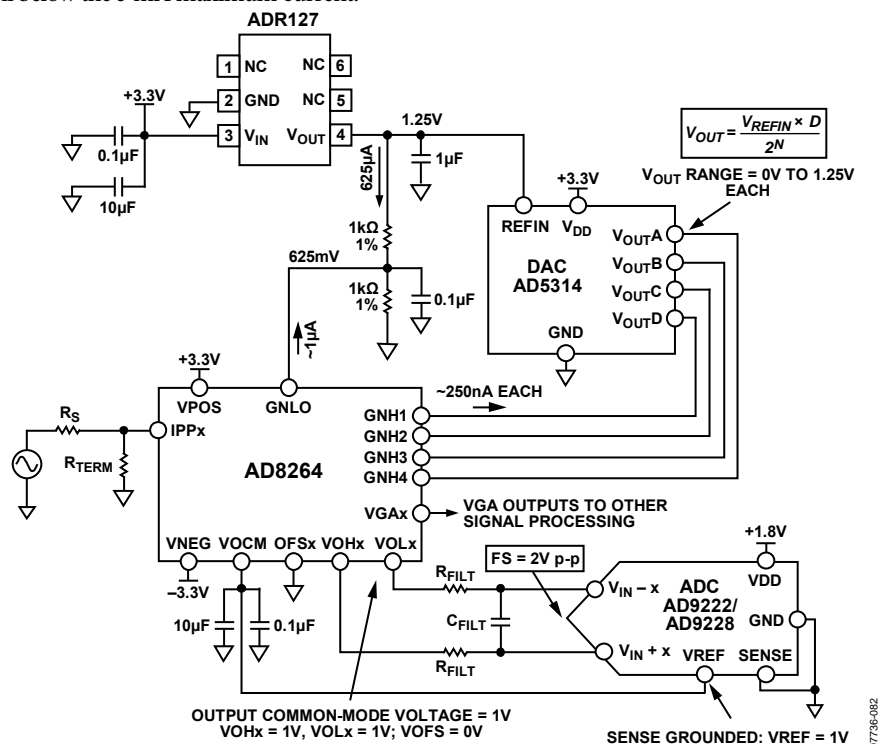
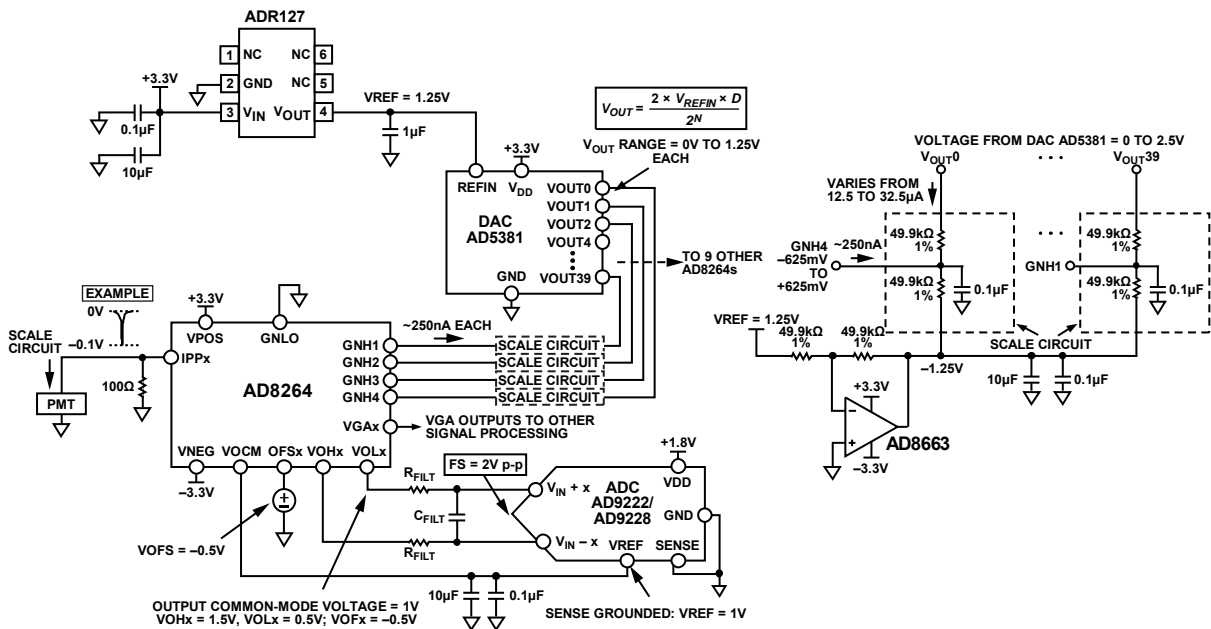

Figure 112. Application Concept of the AD8264 with the AD5314 10-Bit DAC and the AD9222/AD9228 12-Bit ADC
Figure 113. Concept Application of AD8264 with 40-Channel AD5381 12-Bit, 3 V DAC and AD9222/AD9228 12-Bit ADC
The AD8264 is particularly well suited for use in the analog front end of medical PET imaging systems. Figure 112 shows how to use the AD8264 with the AD5314 (a 4-channel, 10-bit DAC) and the AD9222/AD9228 (an octal or quad, 12-bit ADC, respectively). The DAC sets the gain of the AD8264. Note that the full gain span of 24 dB is achieved with this setup because the gain control input range of the AD8264 is very close to 1.25 V. The GNLO pin must offset by $1.25/2 = 625$ mV because the gain control input is bipolar around the voltage applied at GNLO. This is done with two 1 kΩ, 1% resistors. The approximately 1 μA of bias current flowing from the GNLO pin does not contribute a significant error because the basic gain error of the AD8264 is the limiting factor.
Figure 112 also includes the DAC output equation, which indicates that the output can vary between 0 V and $V_{REF} = 1.25 \text{ V}$.
The single-ended-to-differential amplifier of the AD8264 amplifies the VGA output signal by 6 dB and can provide the required dc bias of the AD9222/AD9228, as shown in Figure 112. The ADC is connected with the default internal reference because the SENSE pin is grounded. With this connection, the AD9222/AD9228 VREF pin is an output that provides 1 V; this is then connected to the VOCM input of the AD8264, which sets the output common-mode voltage of the VOHx and VOLx pins to 1 V. This voltage is very close to the recommended optimal value of $V_{DD}/2 = 0.9 \text{ V}$. With this configuration, the ADC inputs are set to a full-scale (FS) of 2 V p-p.
The dc connected concept example in Figure 113 is an application with the 40-channel AD5381, 3 V, 12-bit DAC. The main difference between this example and Figure 112 is that, for the same ADR127 1.25 V reference, the full-scale output of the DAC is from 0 V to $2 \times V_{REFIN} = 2.5$ V. Two options for gain control include the following:
- Use the same circuit as in Figure 112 but use only half the DAC output voltage from 0 V to 1.25 V. This is the simplest solution, requiring the fewest extra components. Note that the overall gain resolution increases by one bit to 11 bits over the 10-bit AD5314.
- Ground GNLO and scale the DAC output so that the GNHx inputs vary from -0.652 V to $+0.625$ V. Figure 113 shows a possible circuit implementation using a divider between the DAC output and a -1.25 V reference.
Figure 113 shows how the AD8264 is connected in a PET application. The PMT generates a negative-going current pulse that results in a voltage pulse at the preamplifier input and a differential output pulse on VOLx and VOHx.
A convenient method of verifying and customizing the signal chains shown in Figure 112 and Figure 113 is by ordering the corresponding evaluation boards available on www.analog.com. The AD8264-EVALZ is a platform through which the user can quickly become familiar with the features and performance capabilities of the AD8264. See the Evaluation Board section for more information.